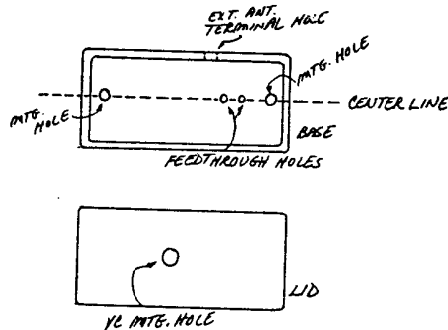

FIGURE 2
4. While the epoxy is hardening, drill two small holes along the center line of the bottom of whatever box you are using so that it can be mounted on the PVC tube. Drill two more small holes along the same center line so that the coil wires can pass from the PVC interior into the box and connect to the VC. Also drill a hole in the side of the box to mount an external antenna terminal and a hole in the lid of the box to mount the VC. Figure 2 illustrates the approximate locations of the holes.